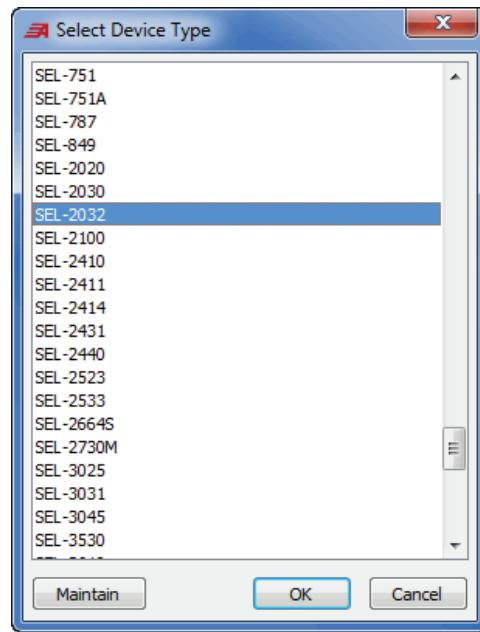

Figure 22 Device Selection Window
- Step 6. Scroll down, select **SEL-2032** in the **Select Device Type** window of *Figure 22*, and select **OK**.